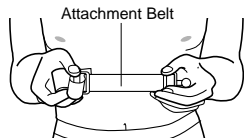

Fig.19
1. Adjust the length of the attachment belt to your lower chest (breast) size (Fig. 19). Make certain the belt is secure and comfortable.